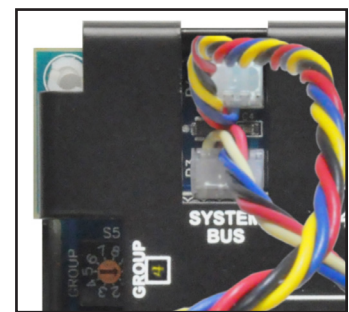

Figure 30. System Bus cable branching off.
2. Starting at one end of your system, mate one plug of the system bus cable with either of the 4-pin headers in the location marked System Bus on each module as shown in *Figure 30*. If one cable is not long enough, or if you want to make a branch from your cable run, you may begin another run by plugging it into the vacant System Bus header. Otherwise, that header may be left vacant.